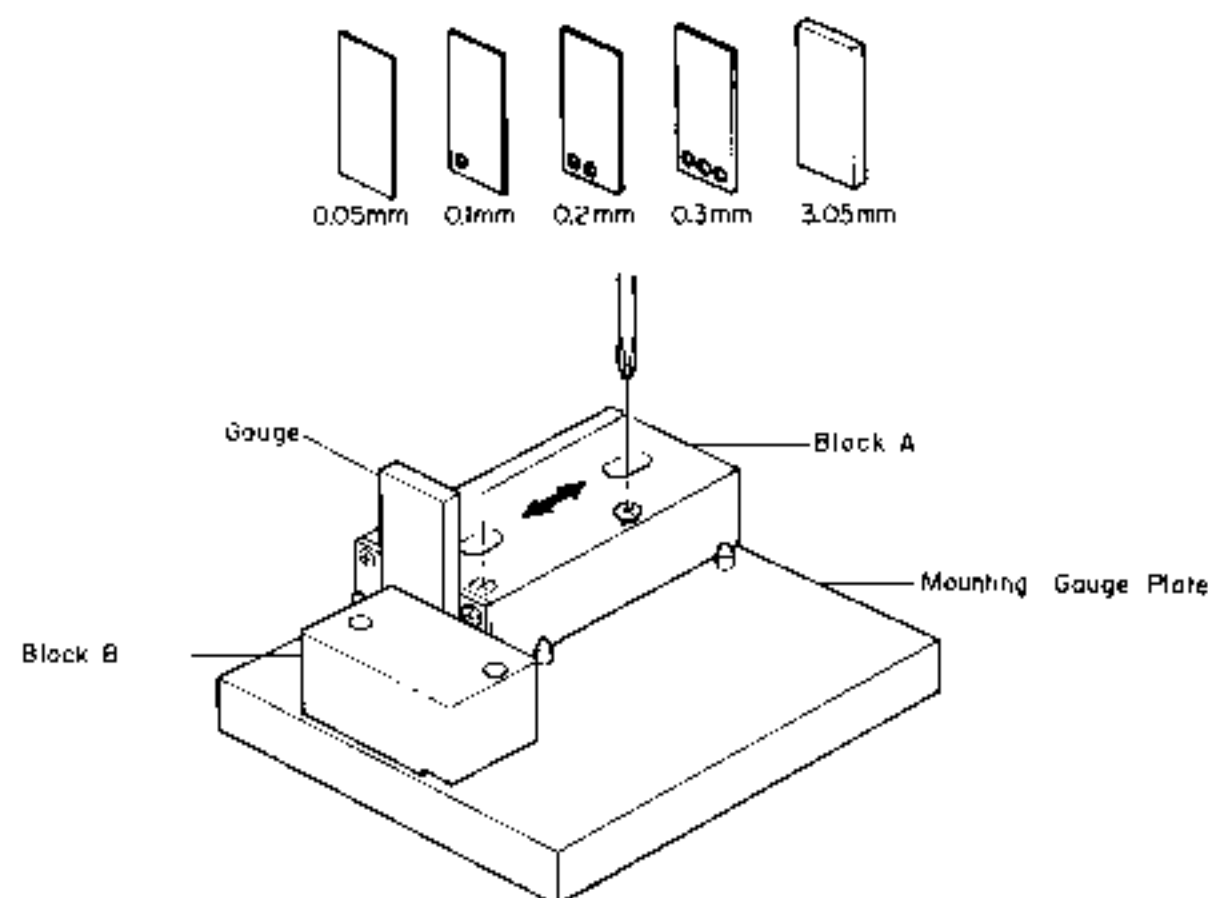
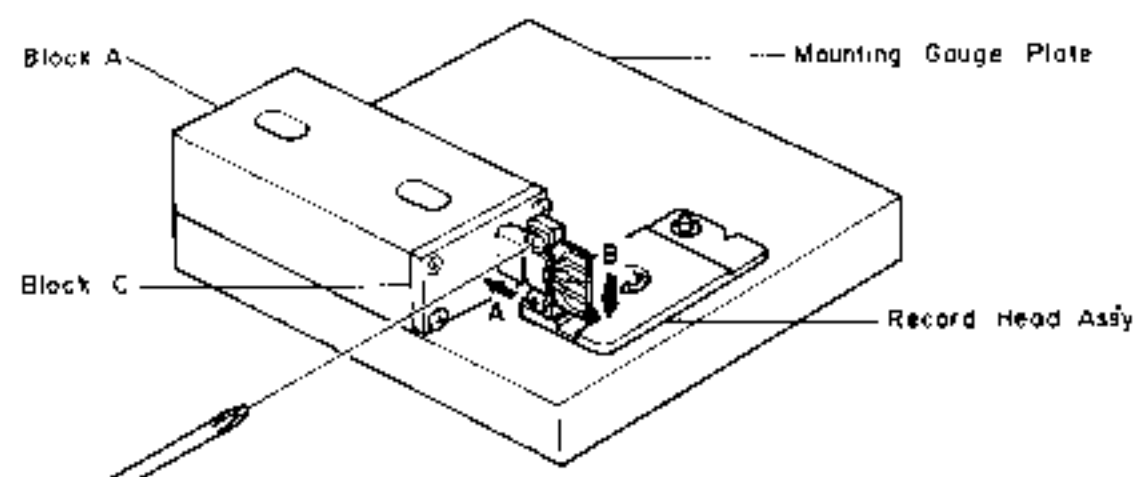

Fig. 2.17
Fig. 2.18
Refer to Figs. 2.17 and 2.18.
- (1) Check the accuracy of the record head stroke.
- (2) Remove Head Mount Base Ass'y.
- (3) Remove the record head assembly.
- (4) Adjustment of Record Head Mounting Gauge M-9048 (DA0-9048A)
- (c) As shown in Fig. 2.17, hold the Gauges (3.05 mm and 0.1 mm thickness) between the Block A and Block B, and fix the Block A with screws, pushing the Block A to the 2 guide pins.
- (5) Remove the Block B from the Mounting Gauge Plate.
- (6) As shown in Fig. 2.18, mount the R-8L record head assembly onto the Mounting Gauge Plate, then check the location of the R-8L record head surface. (If record head touches the Block C, loosen 2 pcs. of screws that assemble record head and record head plate, then place the R-8L record head assembly onto the Plate.)
- (7) Remove the R-8L record head assembly from the Mounting Gauge Plate.
- (8) Readjustment of Record Head Mounting Gauge M-9048 (DA09048A)
- (c) As shown in Fig. 2.17, hold the Gauges (3.05 mm and either one of 0.05, 0.15, 0.2, 0.25, 0.3 or 0.35 mm thickness) between the Block A and Block B, and fix the Block A with screws, pushing the Block A to the 2 guide pins.
- (9) Remove the Block B from the Mounting Gauge Plate.
- (10) Mount the R-8L record head assembly onto the Mounting Gauge Plate.
- (11) As shown in Fig. 2.18, loosen 2 pcs. of screws that assemble record head and record head plate.